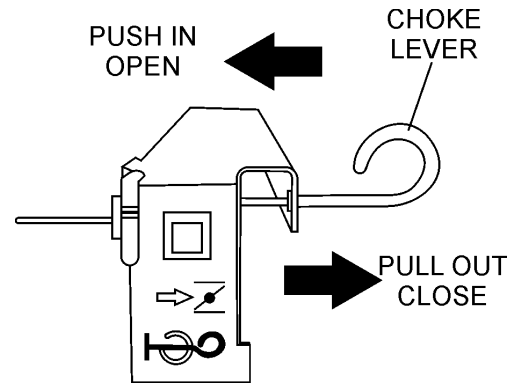

Figure 12. Choke Lever
2. Place the choke lever (Figure 12) in the **CLOSED** position if starting a cold engine.
3. Place the choke lever (Figure 12) in the **OPEN** position if starting a warm engine or the temperature is warm.
- If the engine has started, slowly return the choke lever (Figure 12) to the **OPEN** position. If the engine has not started repeat steps 1 through 5.